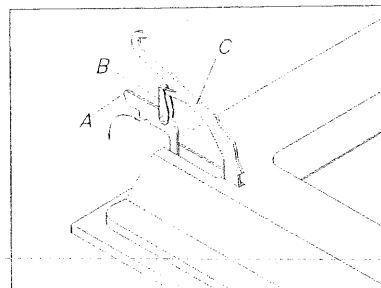

Fig 5
-Hinges with mobile levers (figure 5)